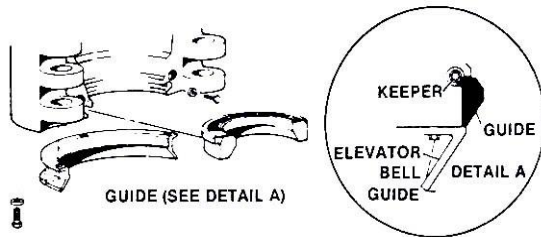

Figure 3-2. Elevator Bottom Guide Installation
- e. Install guide halves and retain with guide keepers and bolts (Figure 3-2).